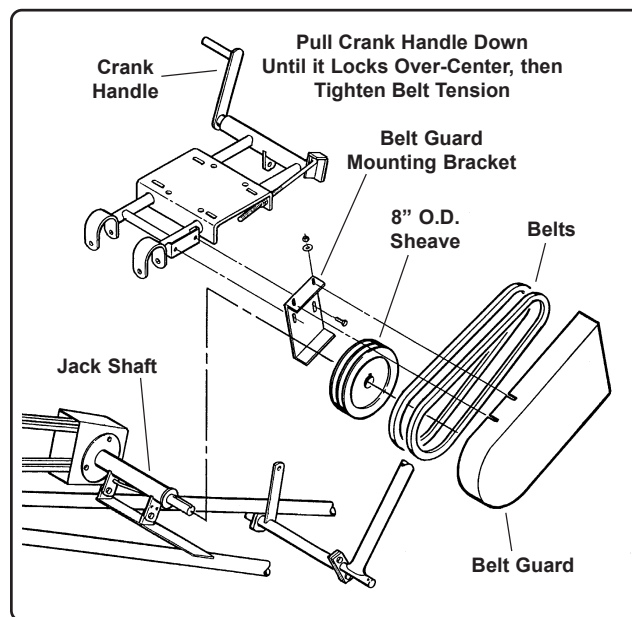

Fig. 16
11. Install the belt guard mounting bracket to the side of the motor mount frame using two (2) 3/8 x 1" bolts, flat washers and nylon locknuts (do not tighten at this time, See Fig. 16).